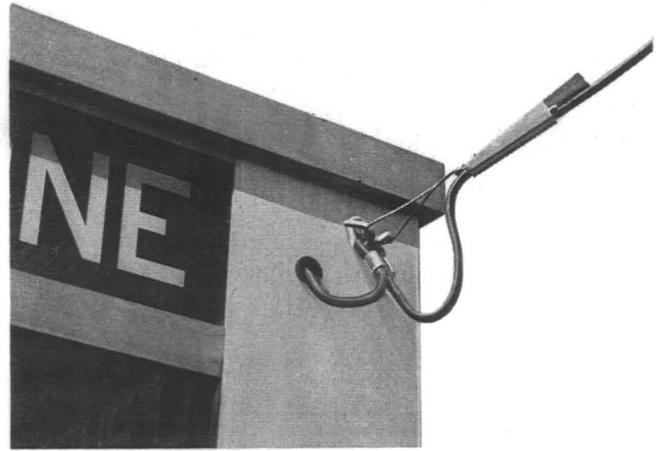

Fig. 6 — Drop Wire Hook for First Attachment
**3.02** A 1/4-20 by 3/4 inch Phillips RHM screw and 1/4 inch standard zinc-plated washer, located adjacent to the top drop wire entrance hole, will accommodate a drop wire hook for first attachment, Fig. 6.